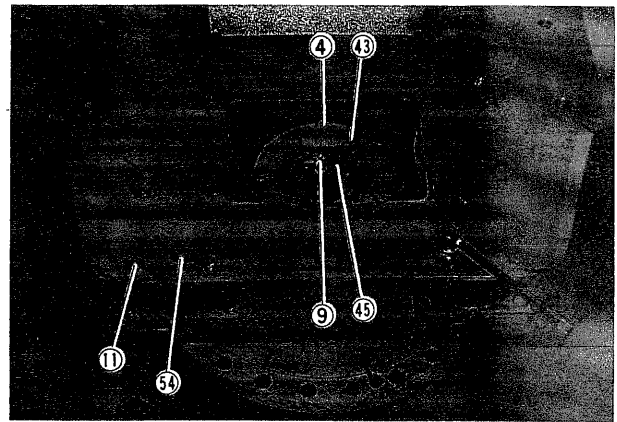

Fig. 83
- (i) Remove bolts (11) and remove axle (Right) (54). Remove bolts (4) and separate cover (43). Take off bolts (9) and remove collar (45). Take off oil seal (44) from cover (43). (Fig. 73, Fig. 83)